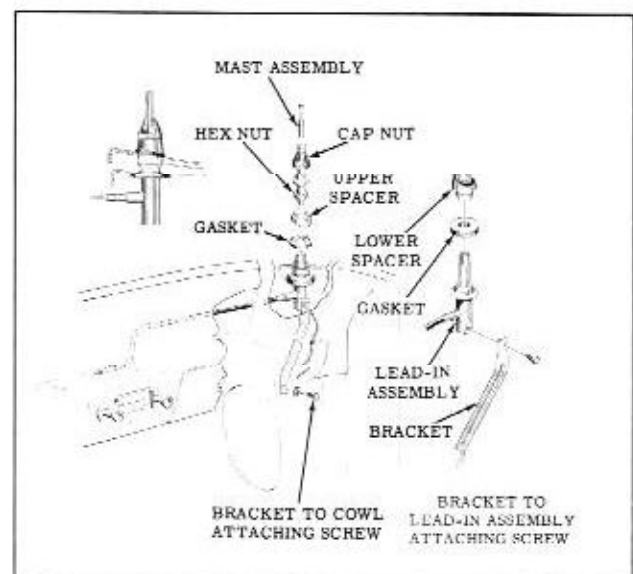

Fig. 12-16 Antenna Installation
3. Remove antenna mast; then remove attaching nut, upper spacer, and gasket. (Fig. 12-16)